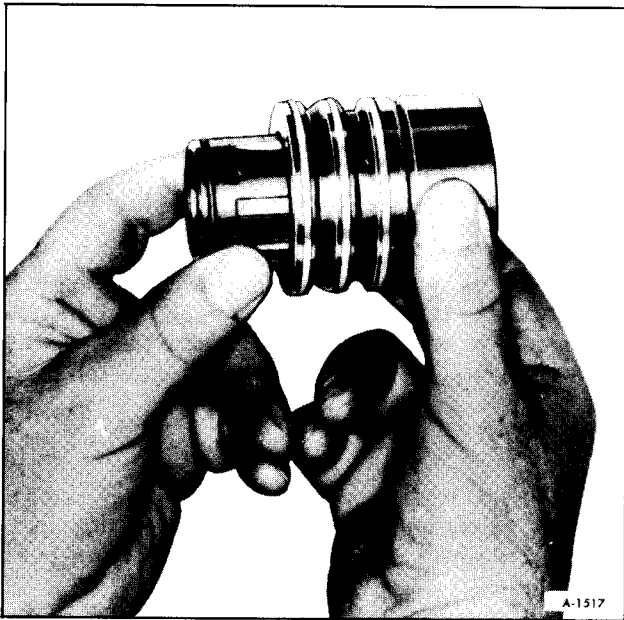

Figure 37—Removing Spool Valve
3. Push the spool valve out of the flush end of the valve body until the dampener "O" ring is exposed then carefully pull the spool from the valve body, while rotating the valve (figure 37). If the spool valve becomes cocked, carefully realign the spool valve, then remove.